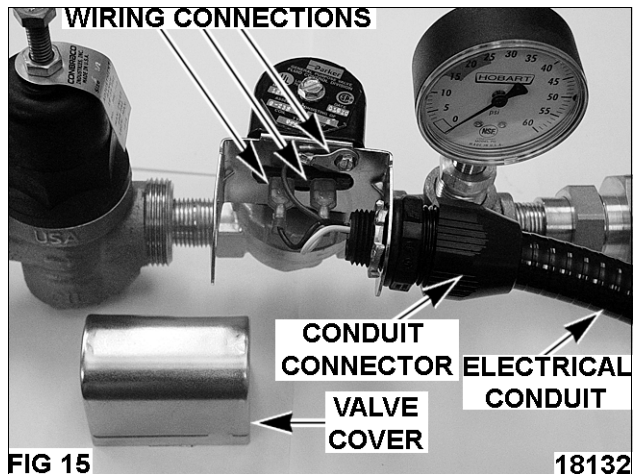

FIG 15 18132
6. Make the electrical connections on the cold water valve per Fig 15. Use one of the knock outs on the valve cover to install the electrical conduit connector. Run the cold water valve wire harness (919862) through the connector and install the electrical conduit to the conduit connector.